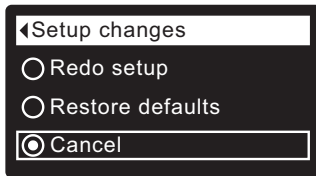

FIG. 37
1. From any of the rolling status screens, press the SELECT (O) button to display the **Main menu**.
3. Press the SELECT (O) button to display the Advanced settings menu.
5. Press the SELECT (O) button to display the Troubleshooting menu.
7. Press the SELECT (O) button to display the Setup changes menu (See Figure 37).
8. Press the RIGHT (▶) button. The flashing padlock icon will disappear, as shown in Figure 37.
9. Press the SELECT (O) button.